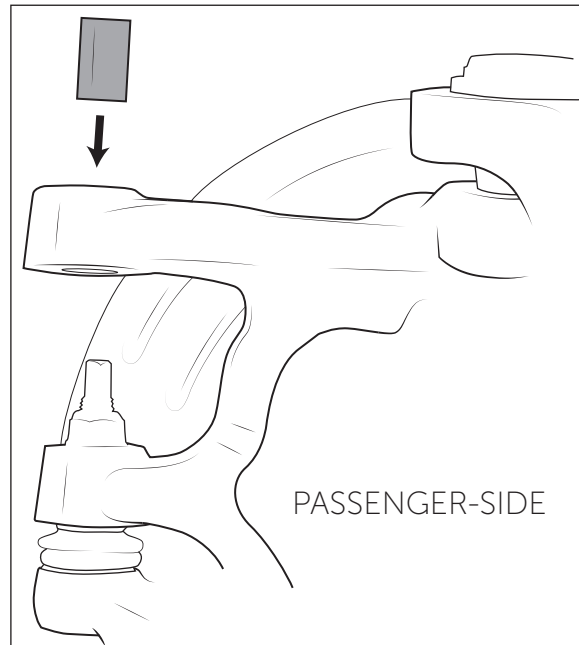

Figure 33
19. Remove the Factory Passenger Side Knuckle and install the supplied AEV Knuckle. Make sure tapered sleeve is fully inserted into machined hole with large end of tapered hole facing upward (fig. 33).